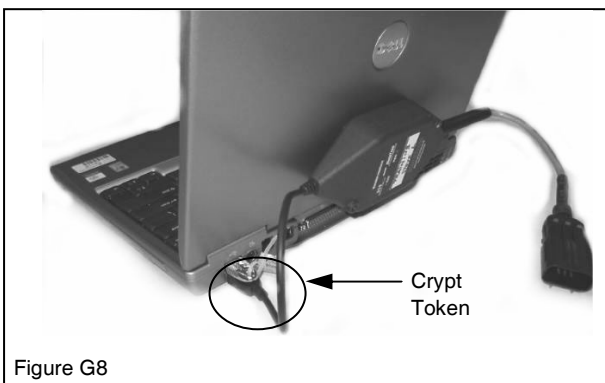

Figure G8
9. With the engine timing still at 0 degrees TDC, the VR sensor will align between the machined timing marks on the flywheel (Figure G8). Loosen the VR sensor locknut and adjust the sensor inward toward the flywheel until the sensor makes contact with the flywheel.
1. Install the Crypt Token in an available USB port in the computer (Figure G8).